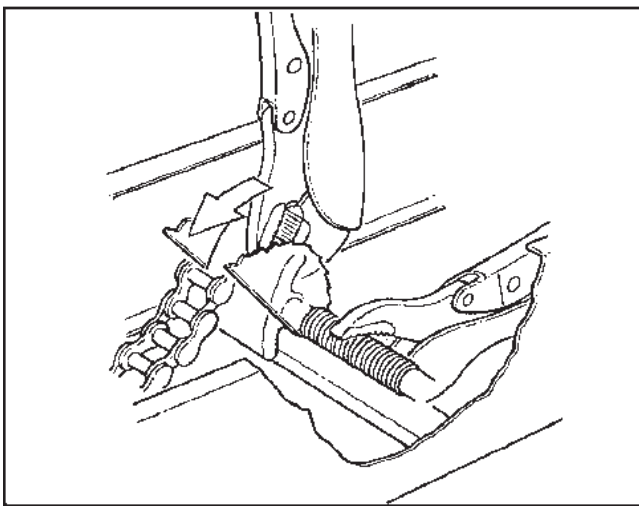

Figure 7-10. Prying the Slider Block off the Cam Assembly.
2. Turn the tensioner cam assembly in the direction which winds up the torsion spring and push the assembly down as close as possible to the cam follower block across the bottom of the frame channels. Clamp it in this position with a Vice-Grip 10CR or similar plier as illustrated in Figure 7-10 and remove the drive chain.
3. With pliers, pry the slider block off the cam assembly as illustrated in Figure 7-10.